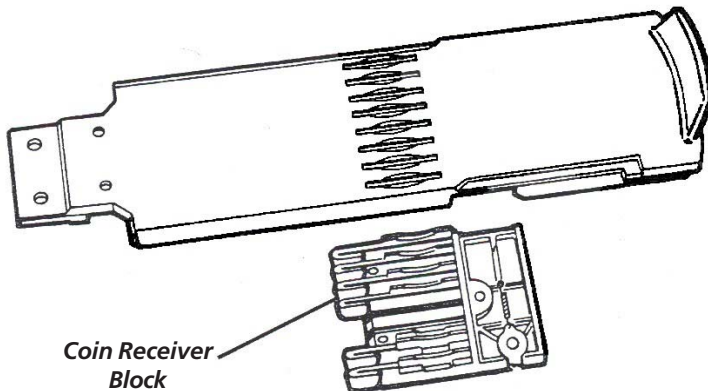

FIGURE 6
**Remove coin receiver block from coin slide (see FIGURE 6):**